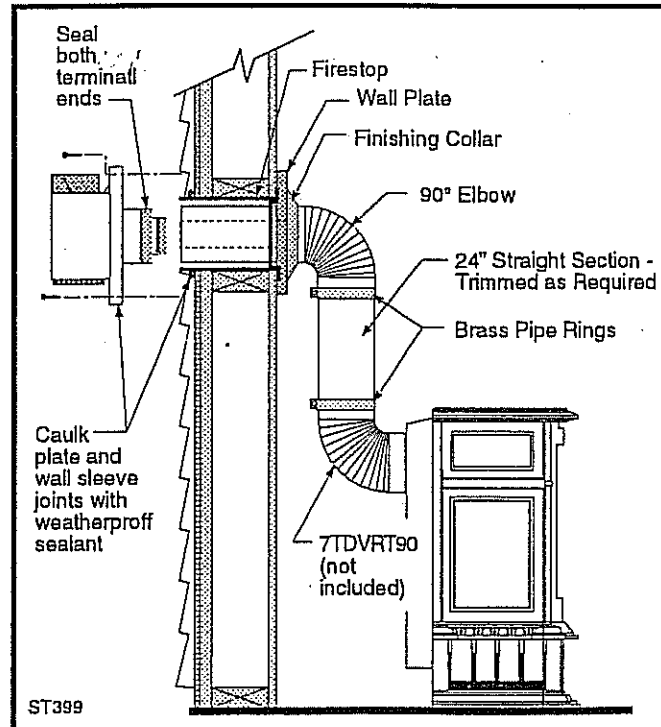

Fig 46 Minimum side wall vent kit, 7TFMSK with transition elbow, 7TDVRT90.
1. If necessary, measure to determine the length of pipe required from the Starter pipe to the exterior wall surface, including a 2" overlap at the joint. (Fig. 46) Use a hacksaw to trim the pipe as necessary. The maximum length of this section is 20" (508 mm).
7. Orient the Ventilated Wall Plate with the open ends facing up and down. Secure the plate to the pipe using three sheet metal screws. Slide the Trim Collar up against the Wall Plate to cover the screws. (Fig. 46)
8. Install the vent terminal. (Fig. 46) Apply high temperature sealant one inch from the ends of the inner and outer collars. Guide the inner and outer vent termination collars into the adjacent pipes. Double check that the vent pipes overlap the collars by 2". Secure the termination to the wall with the screws provided and caulk the perimeter joint with weatherproof sealant.